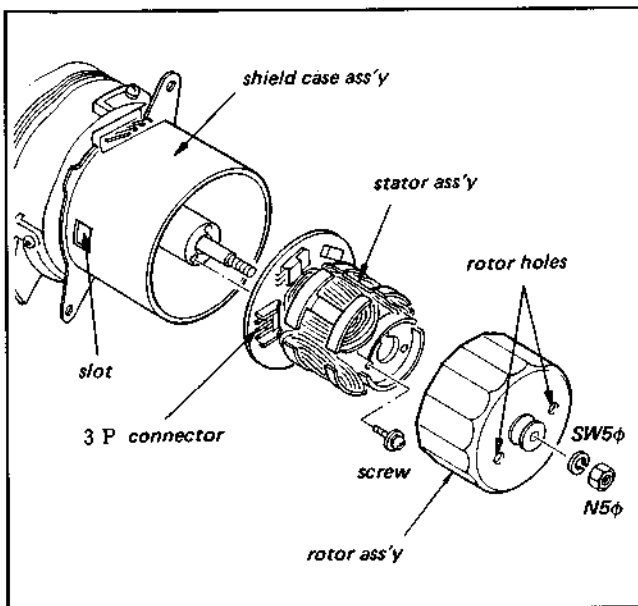

Fig. 3-5. Replacement of drum assembly (3)
4. Loosen the rotor assembly by inserting a long-nose pliers or a screwdriver into the two rotor holes shown in Fig. 3-5 and removing the N5 ϕ nut and SW5 ϕ washer. Pull off the rotor assembly.
5. Remove the screw mounting the stator assembly (shown in Fig. 3-5) and pull off the stator assembly.